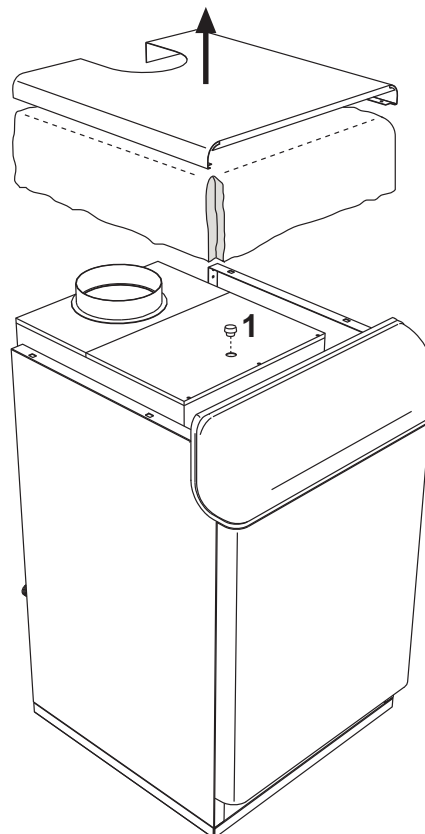

fig. 51 - Combustion analysis
A fume sampling point has been included inside the boiler in the upper part of the anti-backflow device (see fig. 51).
3. Open the fume sampling point 1 of fig. 51;